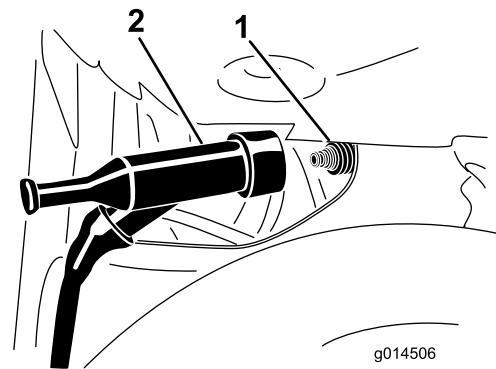

Figure 45
3. Pull the spark-plug wire off the terminal of the spark plug (Figure 45).
4. Push the spark-plug wire onto the terminal of the spark plug (Figure 45).